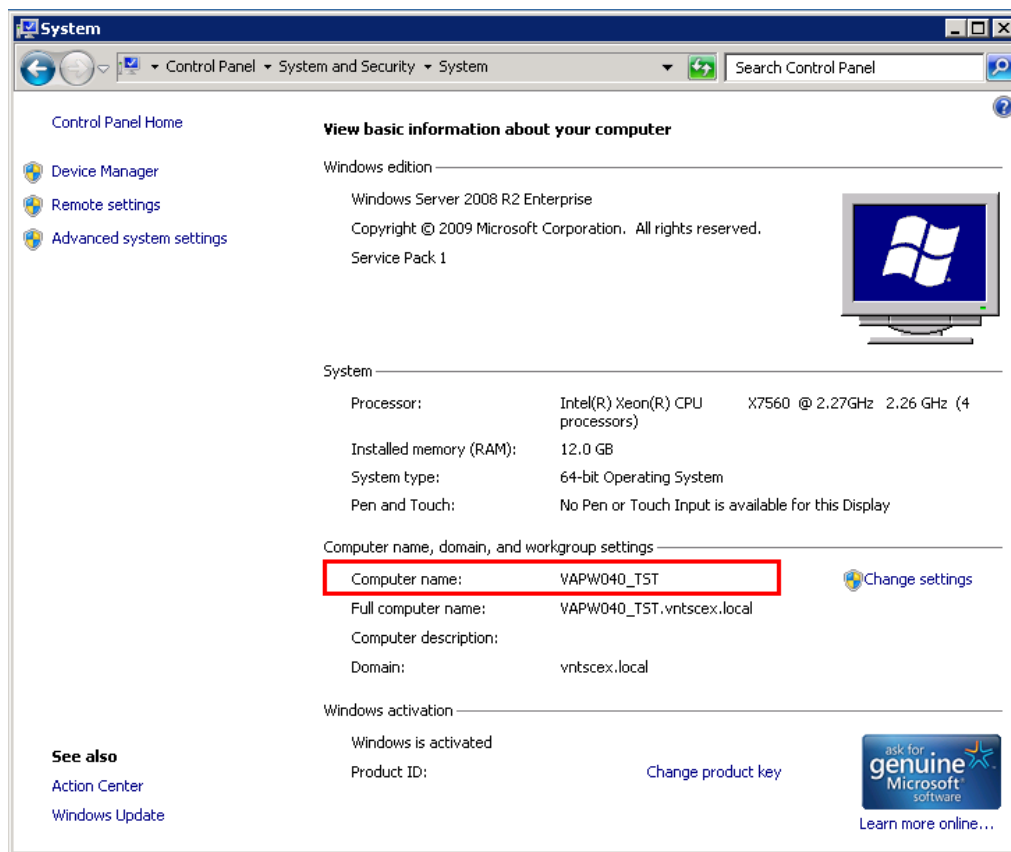

Figure D-2 System Properties in Windows 7
- a. Navigate to *Start* menu, *Control Panel*, *System and Security*, *System* (Figure D-2).